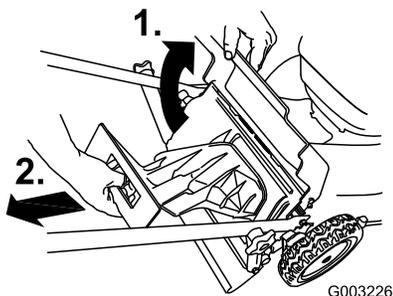

Figure 25
1. Raise and hold up the rear door (Figure 25).
2. Remove the rear discharge plug (Figure 25).